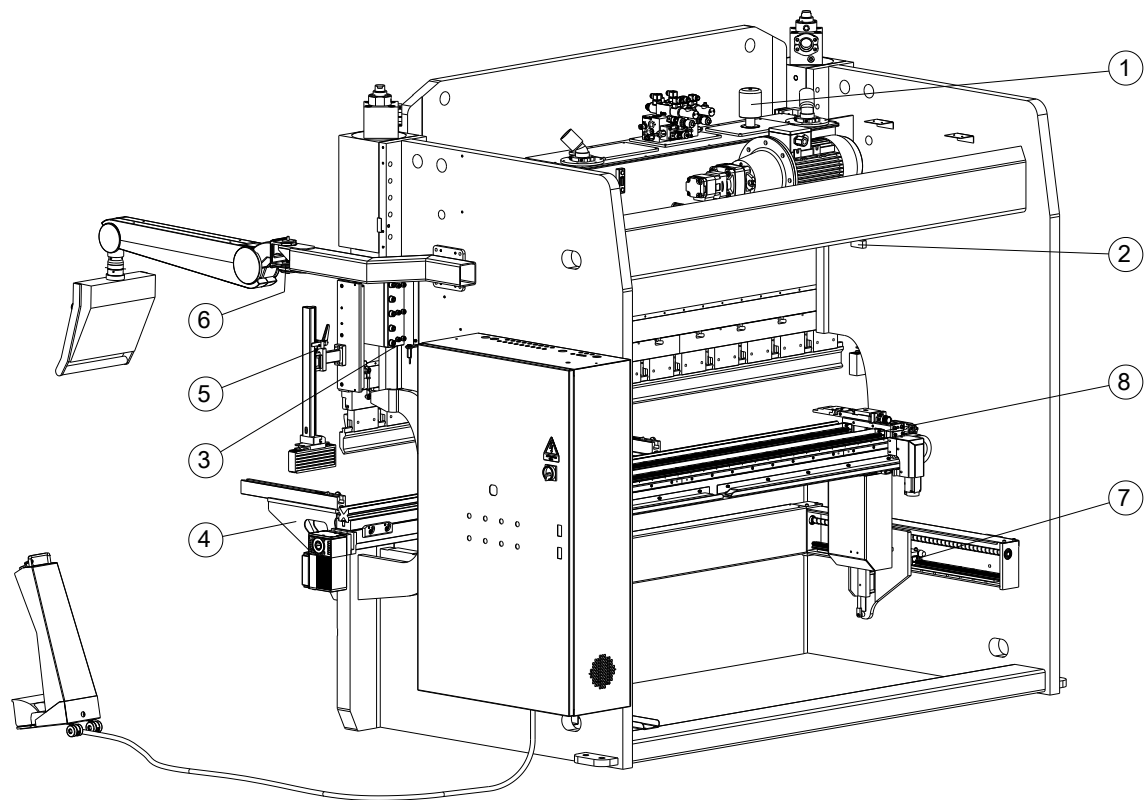
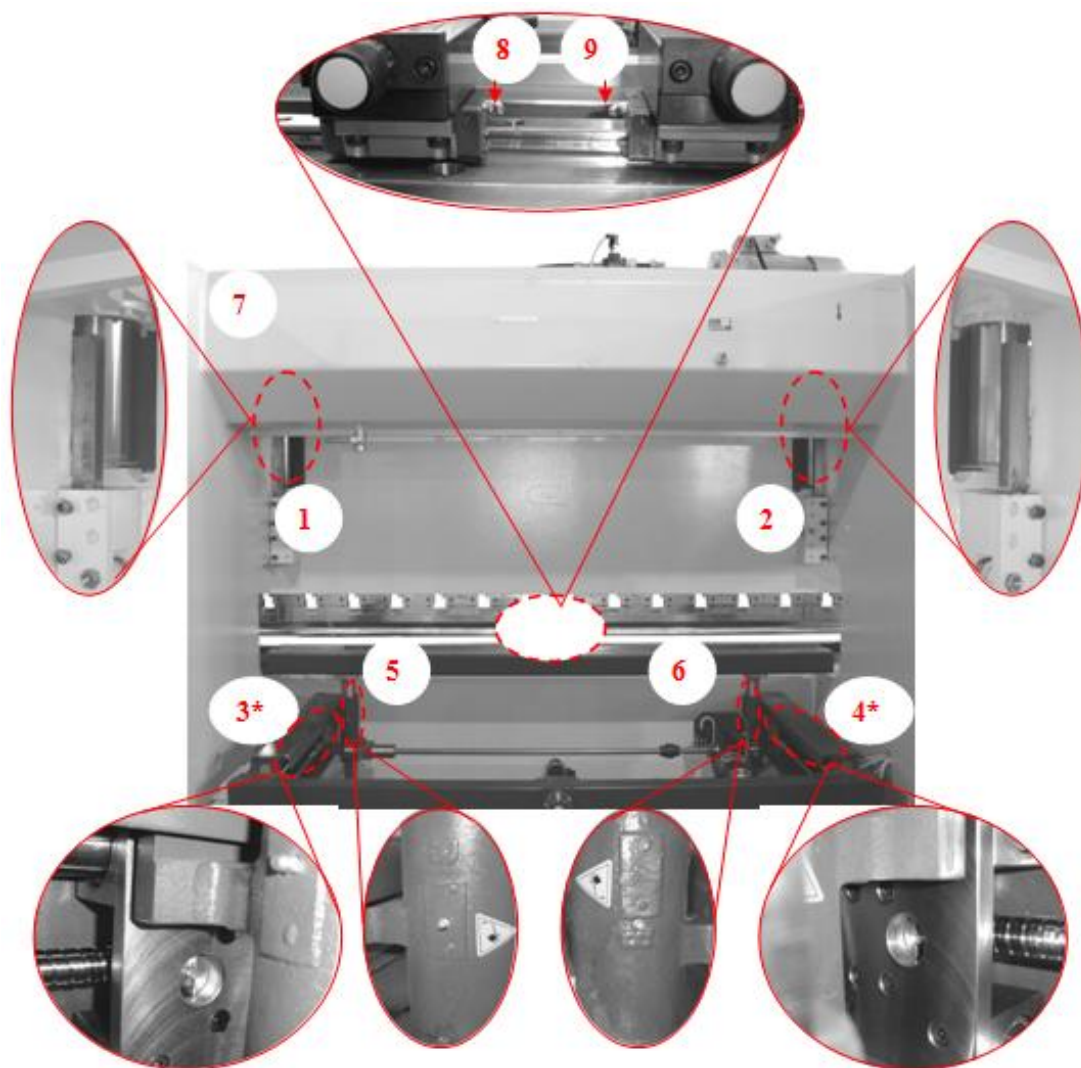

Figure-50
Figure-57
- The lubrication points (Figure-50....56 and Figure-57) should be lubricated at the frequencies illustrated in the lubrication (See Table 15/16/17) under normal operating conditions.